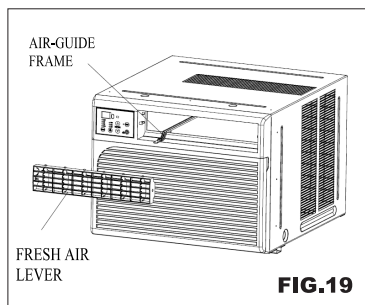

FIG.19
- If you purchase the models with fresh air function,while dismantling the air conditioner to repair the inner parts(such as condensator,evaporator ,copper pipe etc.),be sure to first remove the air-guide frame,pull upward the fresh air lever to make it disengage from its place(FIG.19) ,and then continue the other dismantling work.